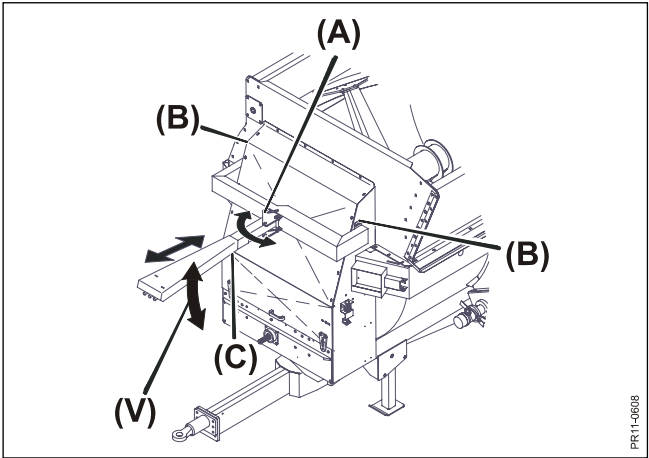

Fig. 4.6
- Fig. 4.6** The control bracket can be turned 90°, by moving dowel (A). The angle (V) can be adapted by loosening the 4 bolts (B).